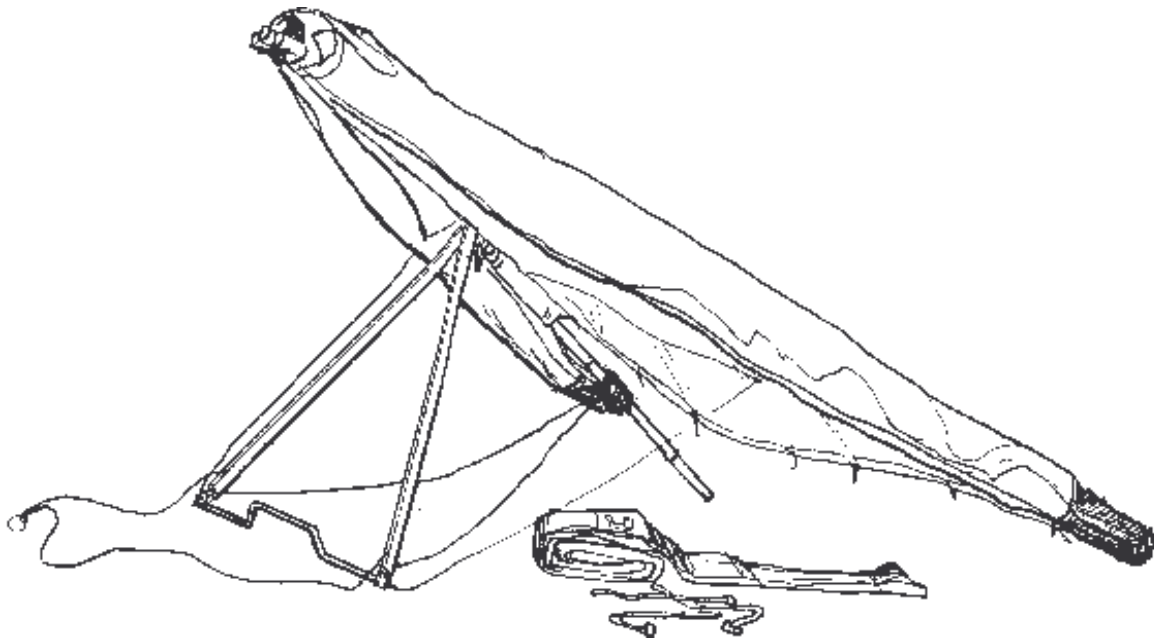

Fig. 4
2.2.2. Set the glider on the control bar, spread the leading edges so that sail is a little sagged and the glider is resting on the wing tips and on the keel tube (Fig. 4). The keel battens must be rested on the keel tube.